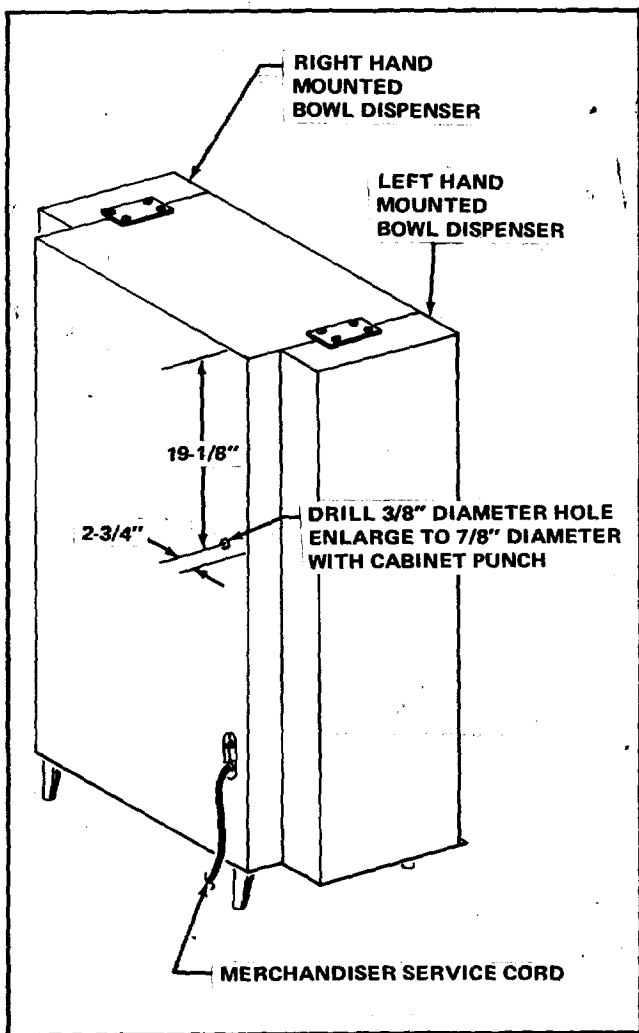

FIGURE IV-5
- Q. On the Service Cord outlet side of the rear panel of the Merchandiser Cabinet, measure 2-3/4 inches in from the side edge of the Cabinet and 19-1/8 inches down from the top edge of the Cabinet and mark the intersection point. See Figure IV-5.